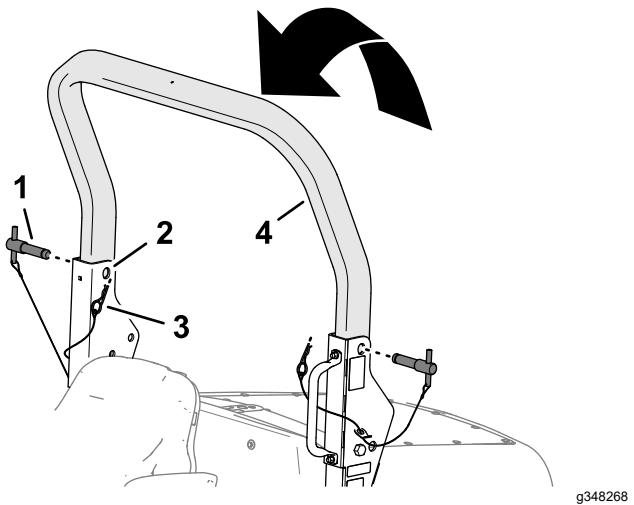

Figure 32
3. Raise the upper roll bar until the holes in the roll bar align with the pivot brackets (Figure 32).
4. Insert the roll-bar pins through the upper holes of the pivot brackets and the upper roll bar (Figure 32).
5. Secure roll-bar pins to the pivot brackets with the hairpins (Figure 32).